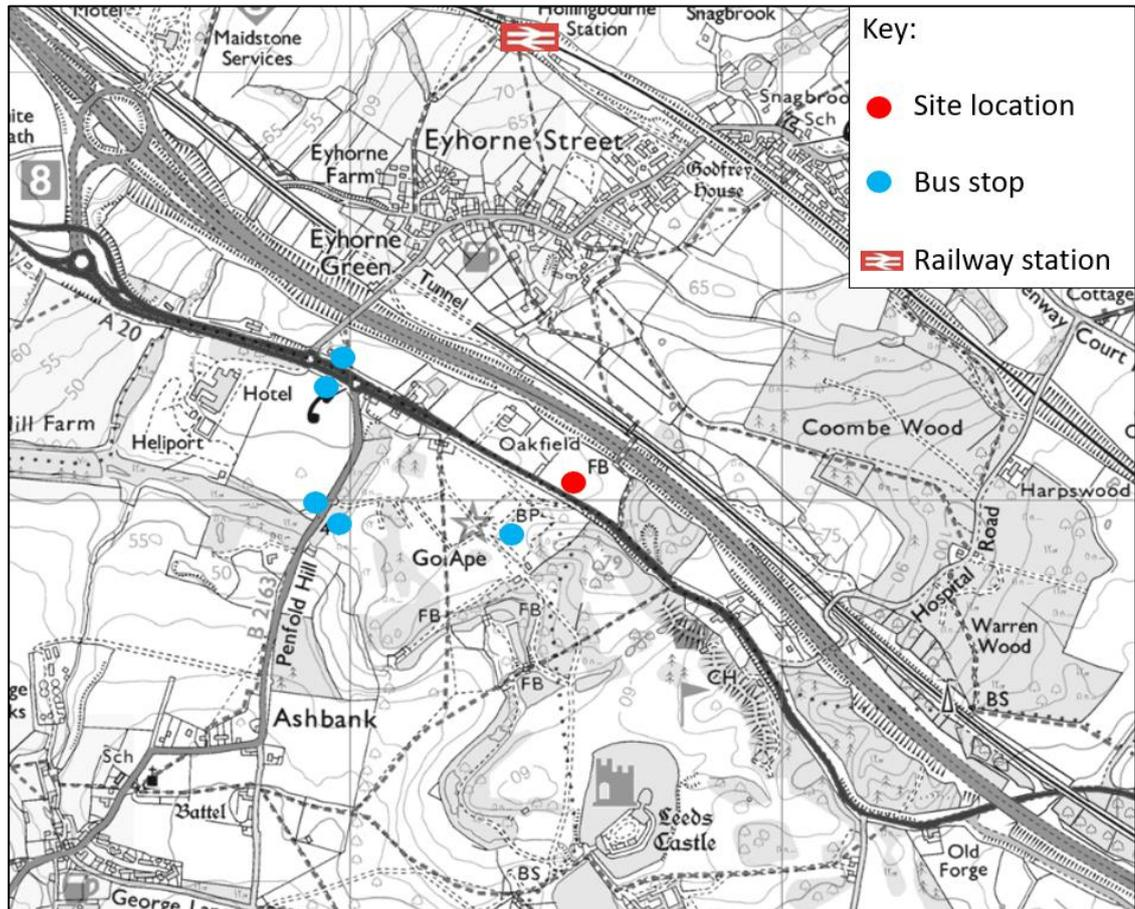

Figure 2.1: Site Location Plan
- 2.1 The site is located on Ashford Road, Hollingbourne approximately 800 metres north of Leeds Castle and the site benefits from close proximity to the A20 and M20. The site in relation to the surrounding area is shown in Figure 2.1 below.